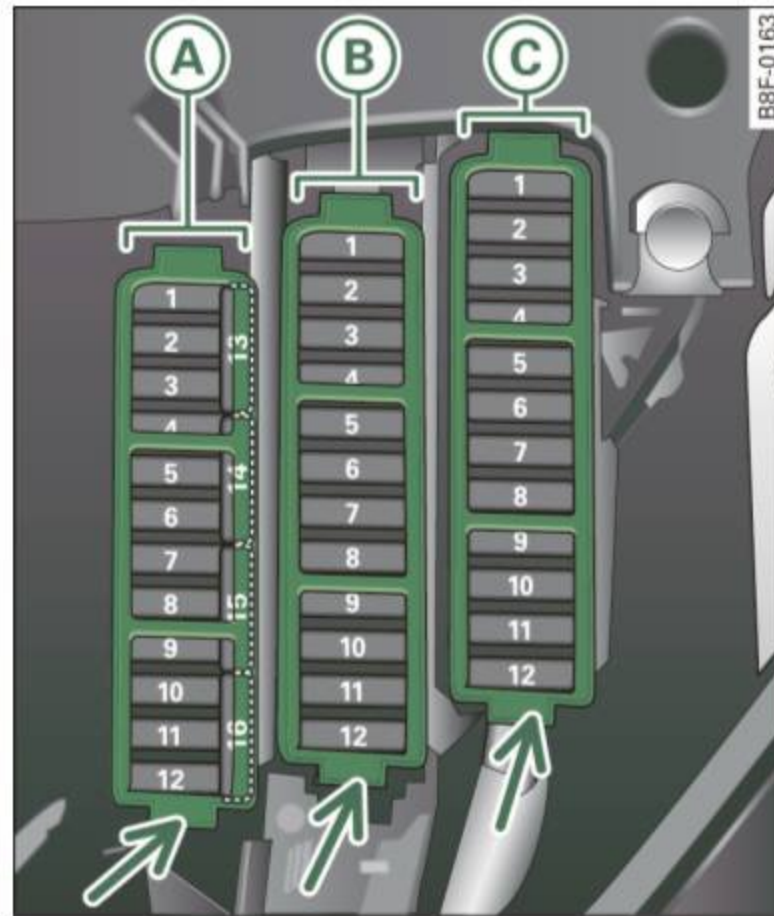

Fig. 236 Left cockpit: fuse panel with plastic clip
- To remove the purple plastic clip if necessary ⁴⁾, hold onto it at the small side and pull it out of the fuse panel ⇒ *page 321, fig. 236.*